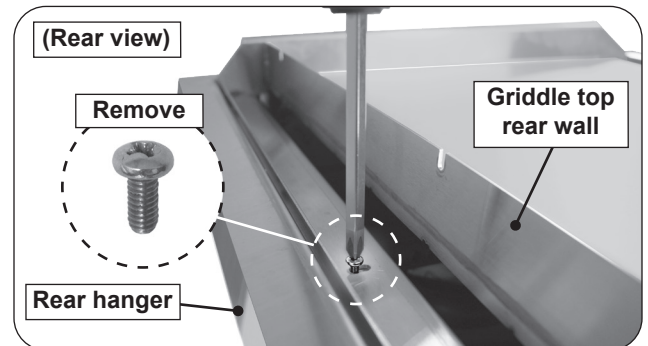

Fig. 39-2 Rear screw removal
3. Locate the screw found on rear of the griddle top and remove (see Fig. 39-2).